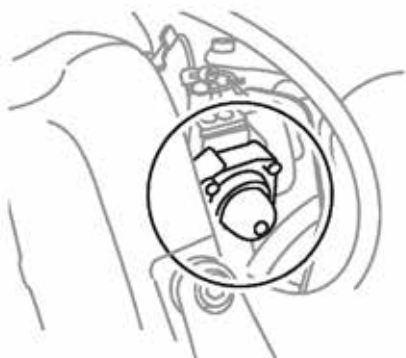

Figure 7. Purge Bulb
2. Carburetor Purge System: Push the purge bulb 4 times or until you see fuel in the bulb (Figure 7).